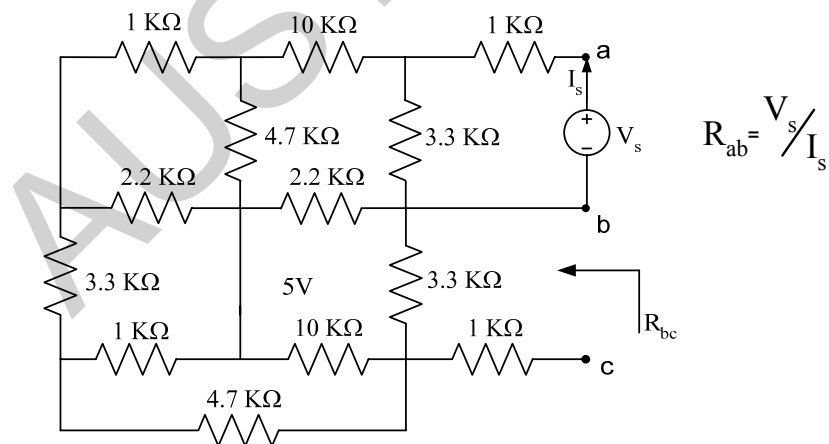

Figure 7.3: Resistance measurement using V_s/I_s method
- Now to measure the resistance R_{ab} , insert a voltage source V_s (take $V_s = 5V$) between terminals a and b as shown in Figure 7.3.